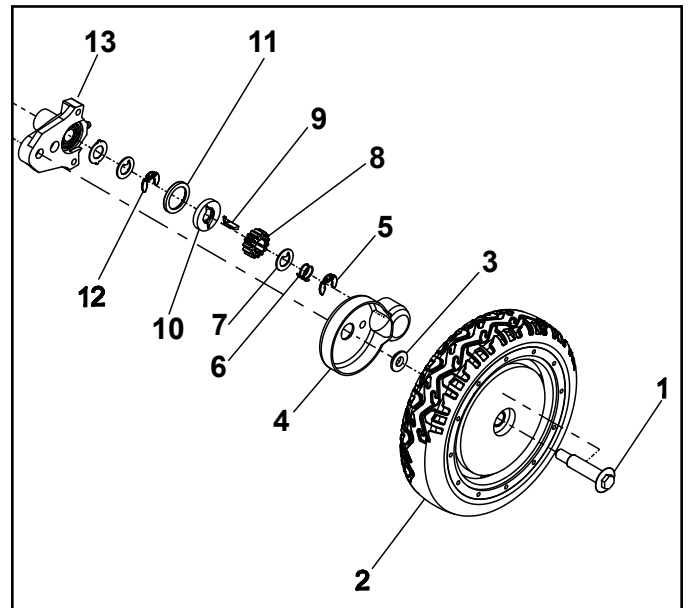

Fig. 167
2. On both sides remove stack up of parts, 1-12, from wheel shoulder bolt to second locking ring clip. See breakdown (Fig. 167).
3. Slide pivot arm assemblies #13 (Fig. 167) out of deck slots and off transmission shafts.